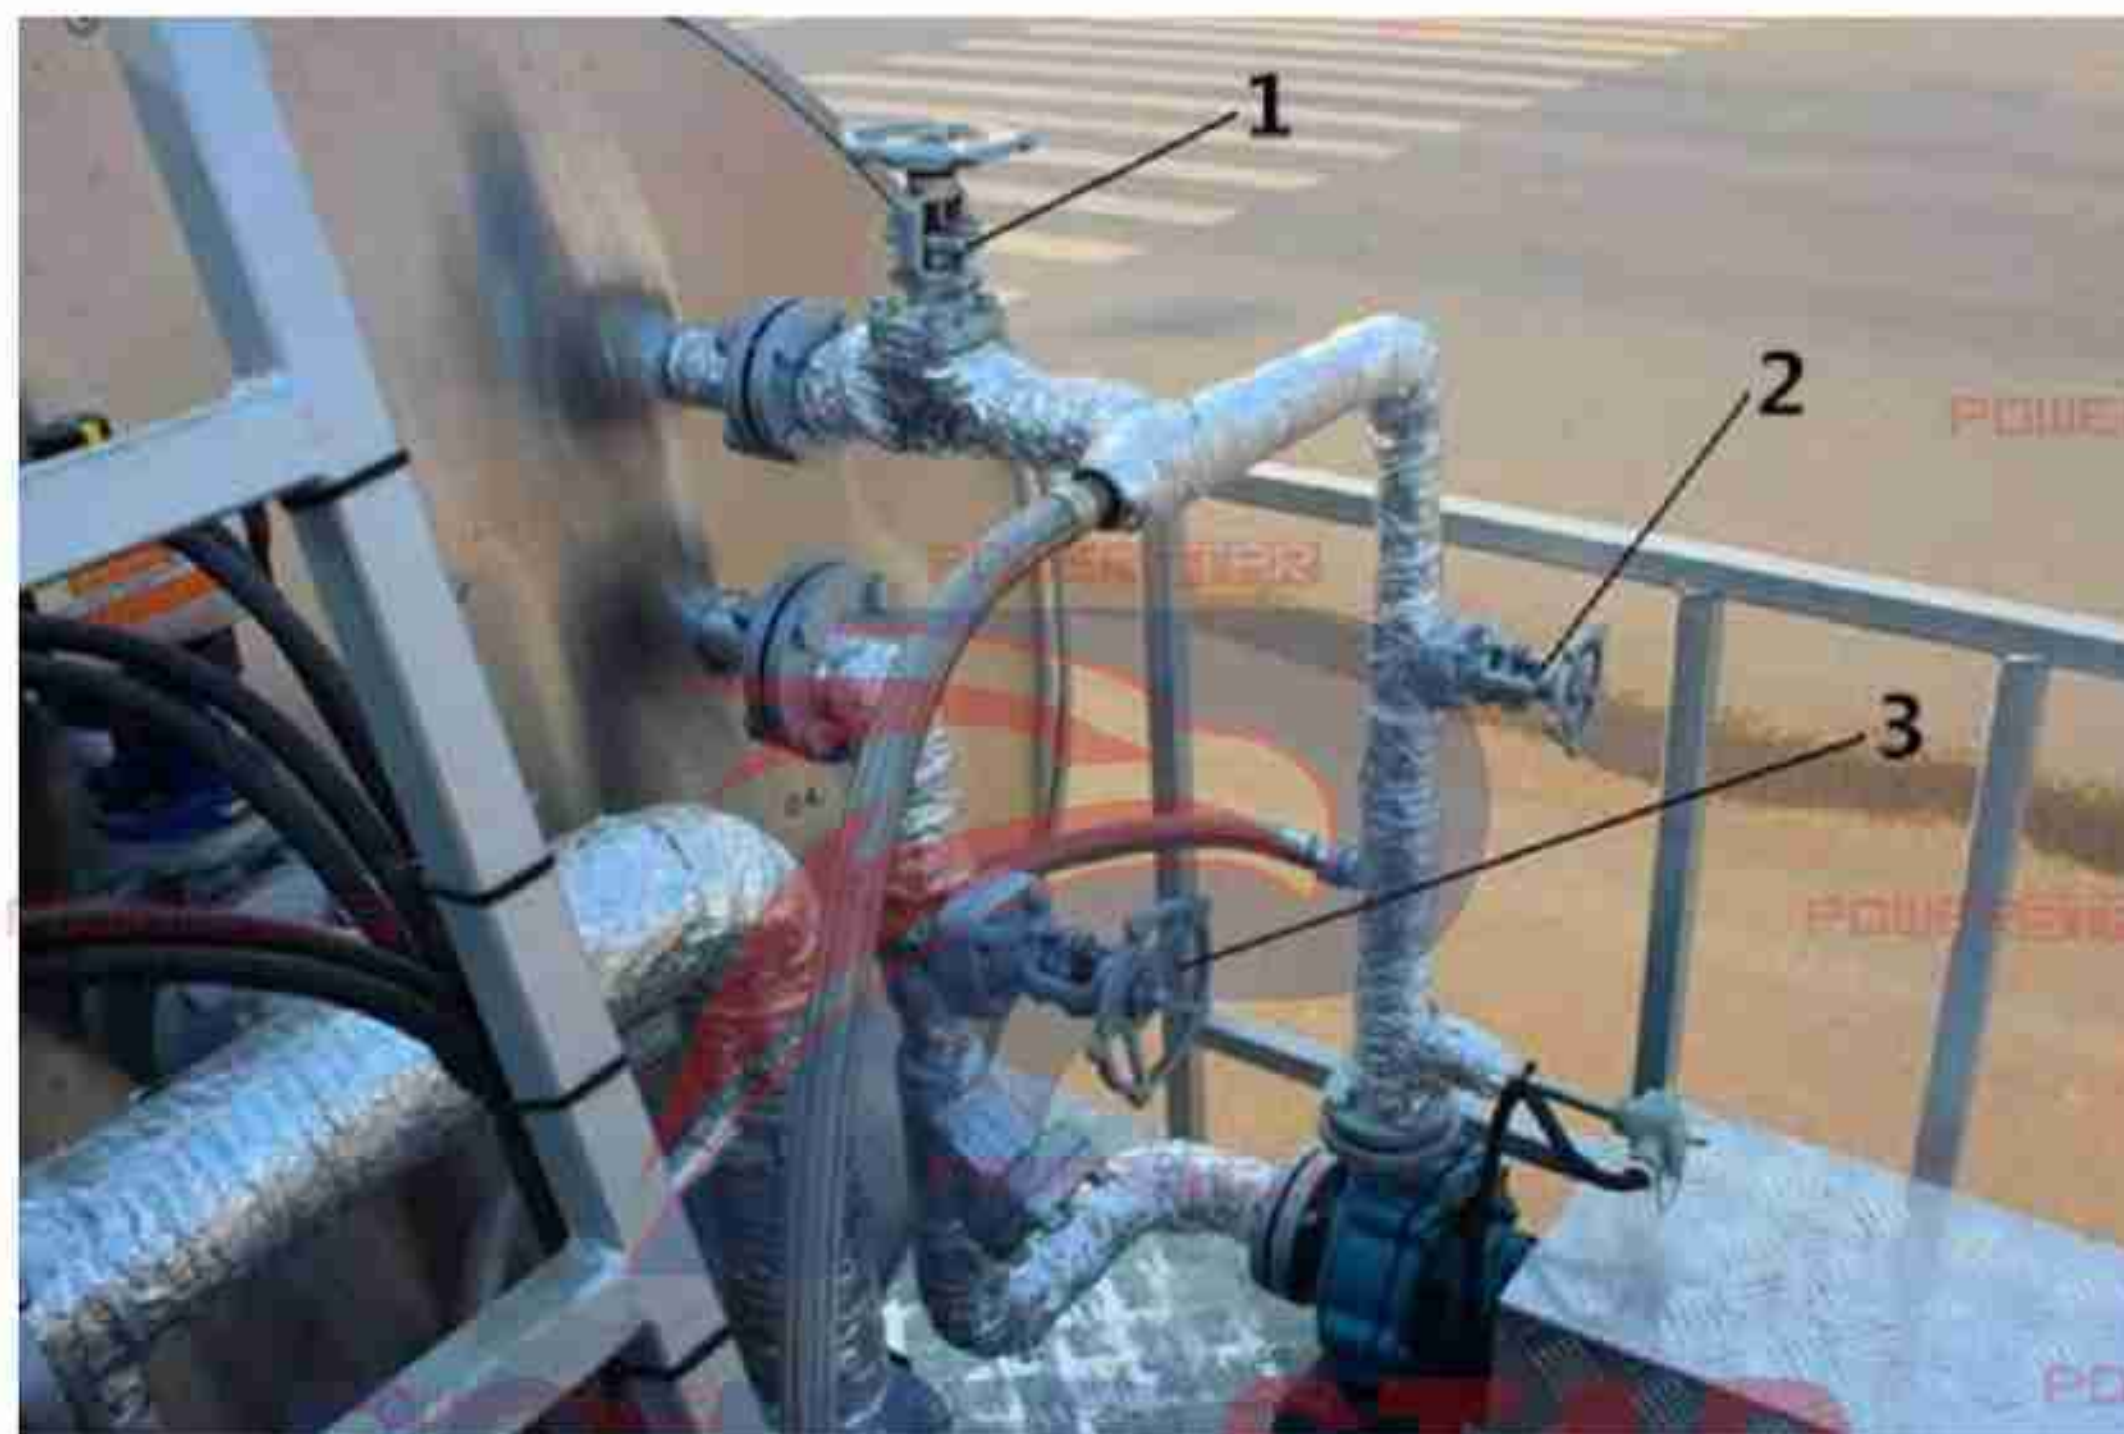

Fig. 11 Heat transfer oil valve
1. After the burner is ignited, open the oil inlet valve on the heat transfer oil pipe and asphalt heating valve (as shown in Fig. 11), and close the asphalt pump heating valve and asphalt pipe heating valve.
Open the heat transfer oil pipe inlet valve and oil return valve (as shown in Figure 11) and close the asphalt heating valve. Open the asphalt heating pump valve and asphalt heating pipe valve. In this case, the heat transfer oil just circulates externally to heat the asphalt pump, asphalt pipe and nozzles.